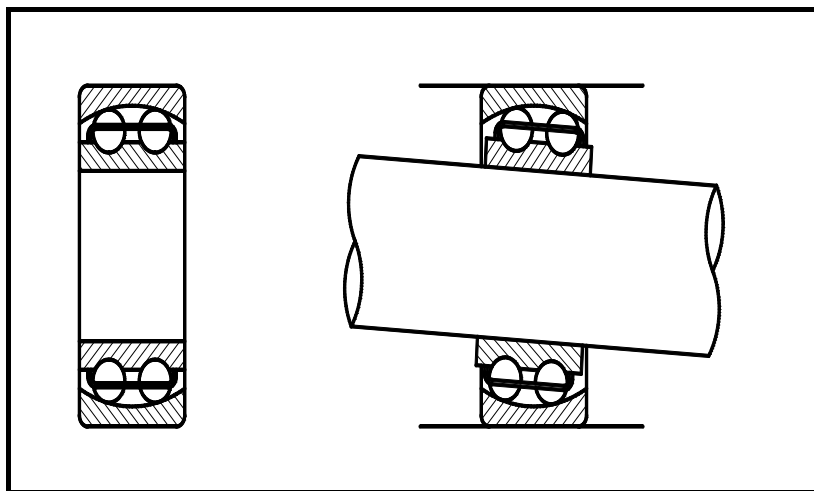

FIGURE 1.4
1.14 What is the function of the self-aligning ball bearing shown in FIGURE 1.4?